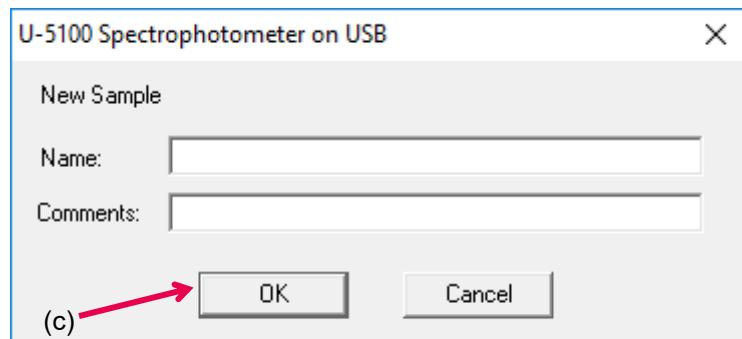

Fig. 4-62
- (c) When a window as shown in Fig. 4-62 is displayed, enter a sample name and comment, and click **OK**.